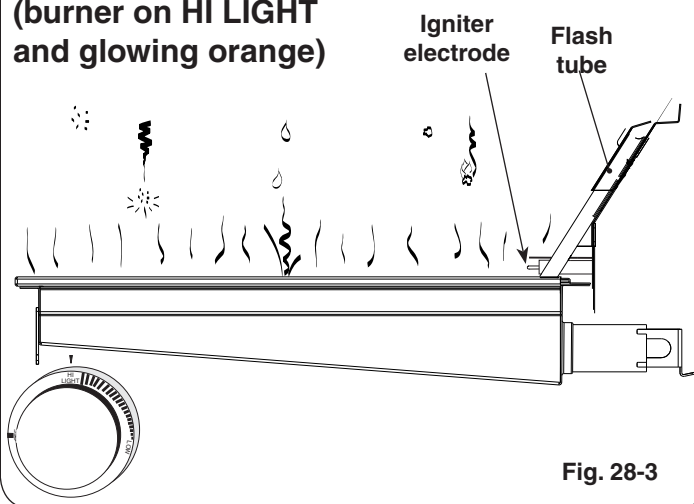

Fig. 28-3
- **DO NOT** place food on the cooking grid until the IR burner glows orange (Fig. 28-3). Drippings are heated and evaporate instead of sticking to and impairing burner function.